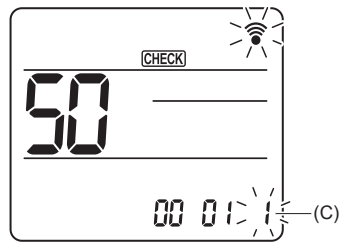

Fig. 6-22
Use the **[DOWN]** button to change the Setting number (C). (Fig. 6-22)